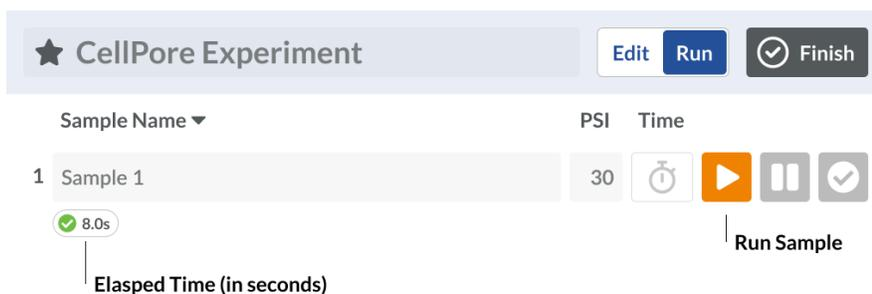

Figure 37. Manual Mode Controls for Running a Sample
4. The Cartridge Holder lowers the CellPore™ Delivery Cartridge back to its resting position for retrieval. For reference, a badge is displayed below the sample name, indicating the elapsed time (in seconds) the sample took to run (Figure 37 and Table 3).